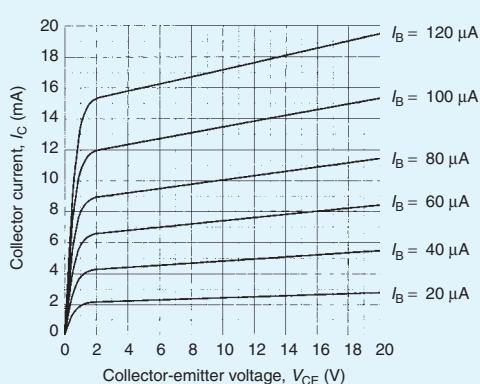

Figure 12.27
6. The output characteristics for a BJT are shown in Fig. 12.27. If this device is used in a common-emitter amplifier circuit operating